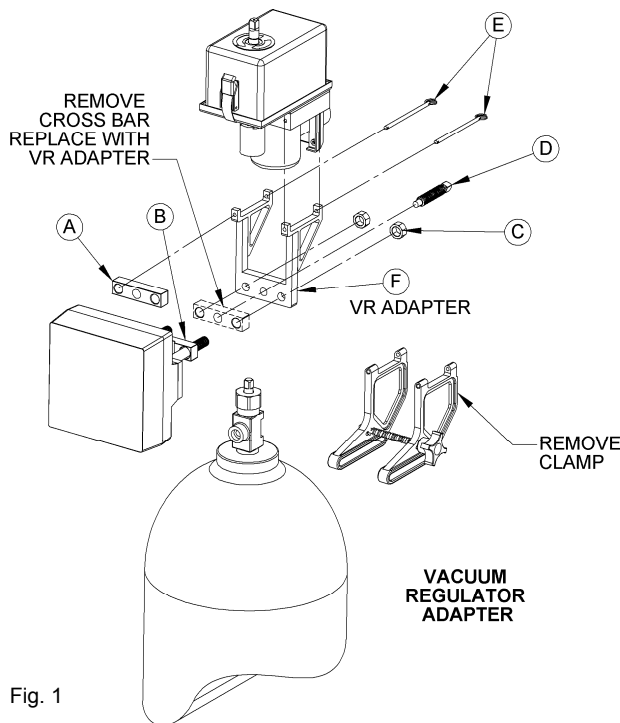

Fig. 1
The **Eclipse Actuator™** may be integrated with some valve mounted vacuum regulators to make a convenient, single unit for easier mounting. Regulators similar to those manufactured by Fischer-Porter, Capital Controls, and Regal require an adapter that is specially designed for that particular brand of vacuum regulator. The manufacturer and model must be specified when ordering the adapter. The adapter replaces the vacuum regulator yoke cross bar as shown in Fig. 1. The adapter also takes the place of the Halogen yoke clamp assembly also shown in Fig. 1.
The Halogen actuator may be ordered with the vacuum regulator adapter already installed or it may be retrofitted in the field using the following procedure, shown in Fig. 1.
1. Remove the regulator clamp screw (D) from the cross bar and reinstall the screw in the center threaded hole in the V-R dir mount adapter (F) part number 6302.00.
2. Remove the two nuts (C) from the vacuum regulator threaded crossbar (A) and set crossbar (A) aside.
3. Install the adapter (F) on the threaded clamp rods. Be sure to leave the sliding follower (B) on the rods between the adapter and the inlet to the regulator. Tighten the nuts (C) securely.
4. Remove the two locking pins (E) from the actuator. The actuator yoke clamping brackets, in Fig. 1, may then be removed with the clamp knob, spring and screw assembly attached.
5. Place the actuator frame atop the adapter with the pinholes in approximate alignment with the corresponding holes on the adapter. Reinstall the locking pin (E) to complete the attachment of the actuator to the vacuum regulator mounting adapter.